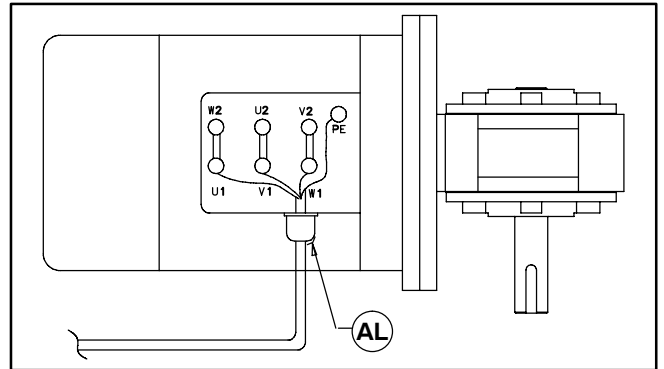

Figure 27
- b. Record wire colors on terminals U1, V1, W1 & PE (Figure 27). Loosen terminals U1, V1, W1 & PE and remove wires.
- c. Loosen cord grip (AL of Figure 27) and remove cord.